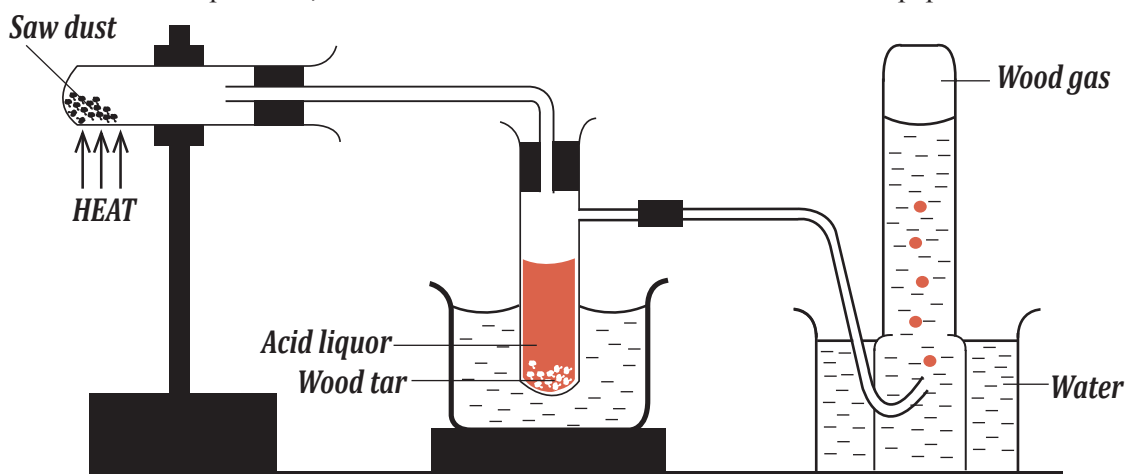

Figure 11.2; destructive distillation of wood.
1. Set up the apparatus as shown in figure 11.2
2. Fill the beaker with cold water and insert in it a test tube containing a mixture of acid liquor and wood tar as shown in figure 11.2. Do not insert the trough in the position at this stage.
5. Fill in the trough and collect the wood gas over water as shown in figure 11.2. Collect several gas jars if possible.